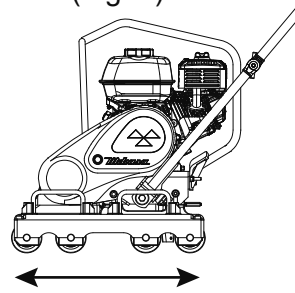

Fig. 7
- Check that the rubber rolls rotates smoothly by moving the machine forward and backward. (Fig. 7)